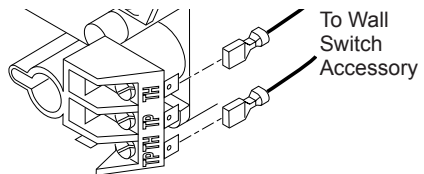

Figure 44 - Connecting Wall Switch to Control Valve
- Connect one terminal of 25 ft. wire for wall switch to TPTH terminal on valve. Connect remaining wire terminal to TH terminal on valve. Make sure wire terminals are in positions on unit as pictured in Figure 44. If wires are not connected as shown switch will not work.